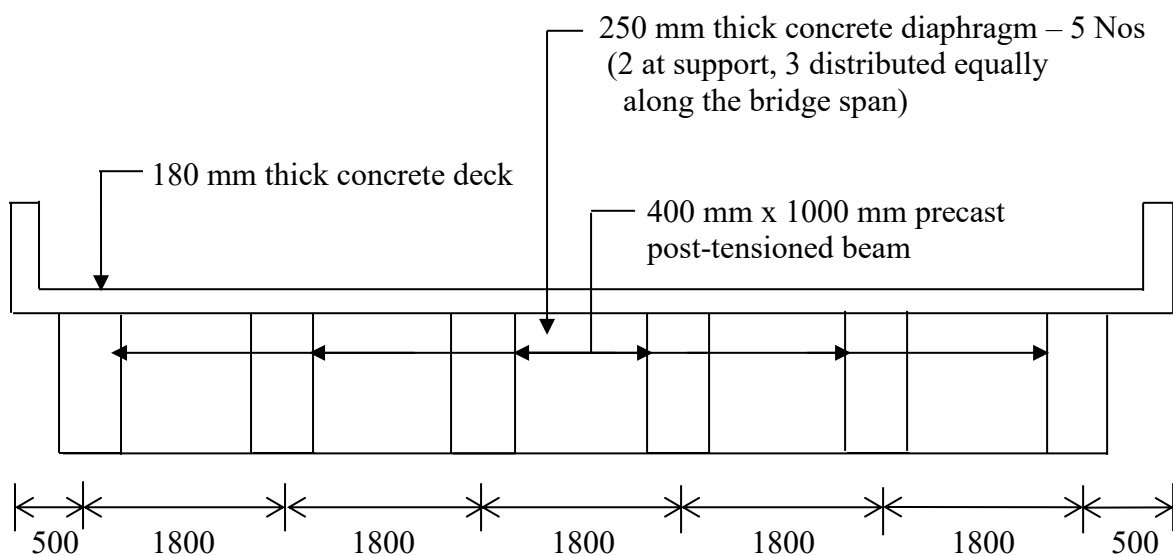

Figure 2 : Cross section of a bridge at midspan (all dimensions in mm)
- (2) (a). The cross section of a 36 meter single span bridge is shown in **Figure 2**. The bridge is supported by six equally spaced rectangular post-tensioned beams. In addition, five diaphragms are provided for lateral stability. If the bridge is subjected to a Knife Edge Load (KEL), construct the equivalent grillage together with the notional lanes. Provide marking for all major elements and the properties of the corresponding critical sections. Take the carriageway with = 9.0 m. Disperse the KEL load to the appropriate nodes.